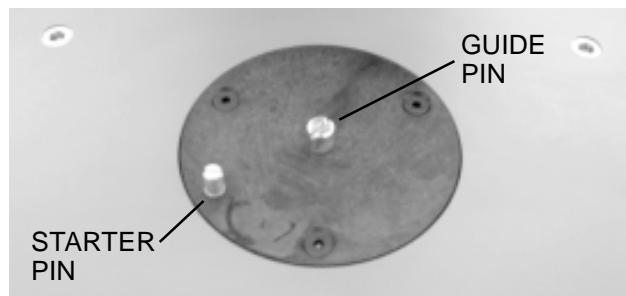

Figure 23. Use the Pin Routing Table Insert when routing against a pin.
4. Position the Table Insert as shown in Figure 23 and screw the 1/4" Starter Pin into the threaded hole just to the left of the center hole in the Plate. Tighten securely. When installing the Table Insert, the Starter Pin must always be positioned in the Insert so it is to the left of the Guide Pin.